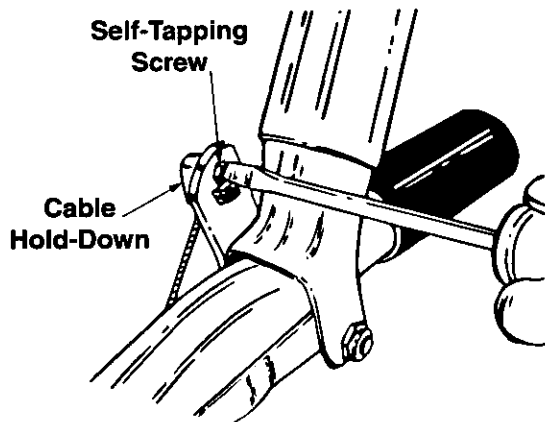

Figure 9
4. Pull the cable upwards to obtain slack, lift the clutch grip, and insert the cable hold-down into the clutch grip. Secure with self-tapping screw from the hardware pack. See Figure 9.